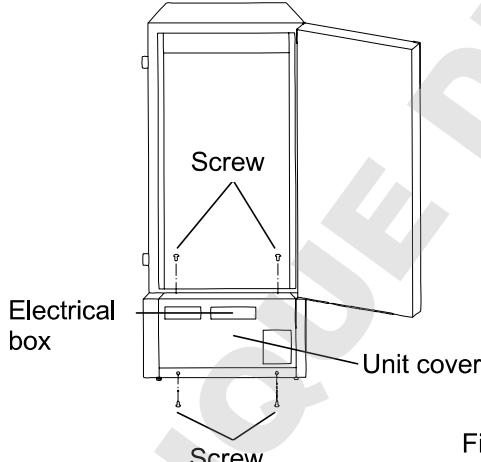

Fig. 1
This unit is provided a nickel-metal-hydride battery for the power failure warning device. The battery is located in the electrical box inside the unit cover (Fig. 1). The battery needs to be replaced about every 3 years. For the replacement, contact our sales representative or agent.
2. As shown in the Fig. 1, remove the unit cover by unscrewing four fixing screws with a screw driver.